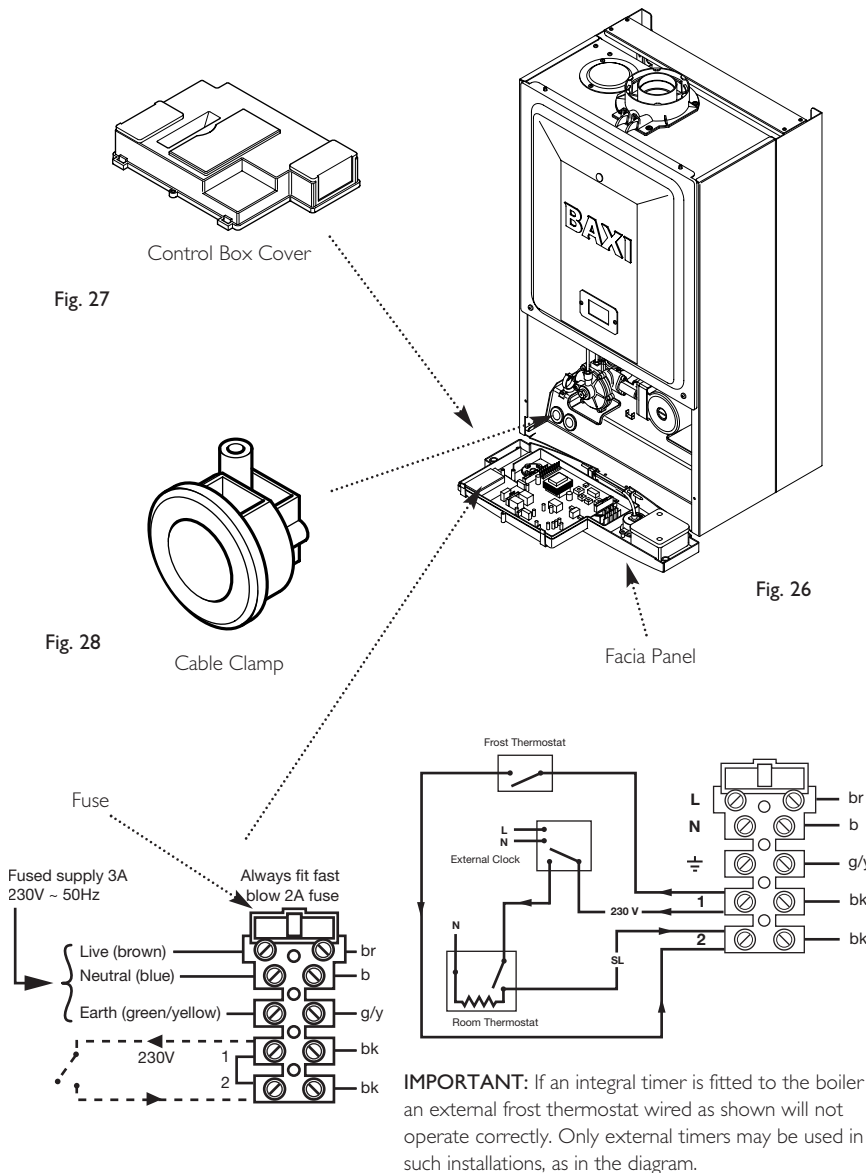

Fig. 29
7. To connect external control(s) remove the link between terminals 1 & 2. The 230V supply at terminal 1 must be connected to the external control. The switched output from the external control must be connected to terminal 2 (Fig. 29).
NOTE: If the room thermostat being used incorporates an anticipator it **MUST** be wired as shown in Fig. 29